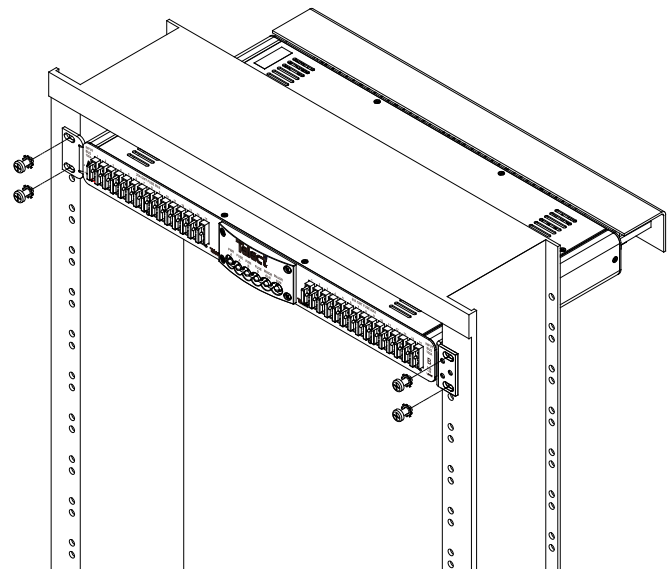

Figure 4 - Rack Mounting
2. Locate an unused rack position, normally at the top of the rack. Mount the panel to the rack using four, #12-24 thread-cutting screws and lock washers provided, as shown in Figure 4.